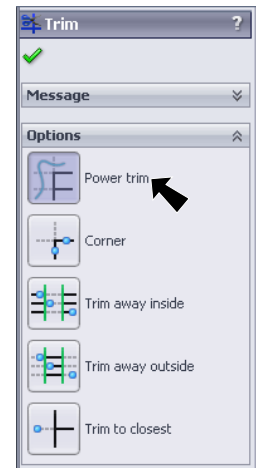

Fig. 49
Step 11. In the Trim Property Manger select **Power Trim** , Fig. 49.